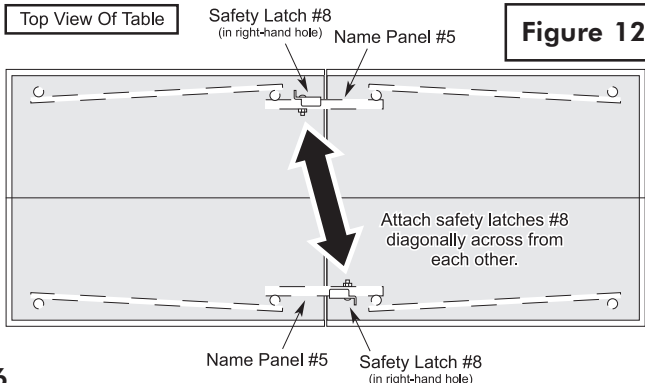

Figure 12
27. Go to the other side of the table and install the second safety latch into the right-hand hole on the other name panel #5. **NOTE: Safety latches must be attached diagonally across from each other.** (See Figure 12)